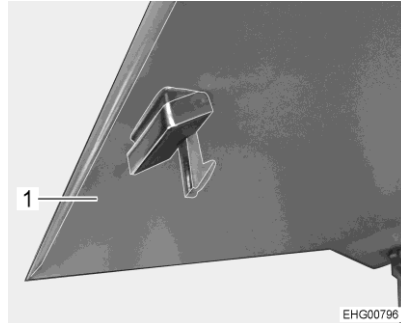

Fig. 68 Furniture flap
- Press the furniture flap (Fig. 68,1) inwards. The furniture flap is unlocked.